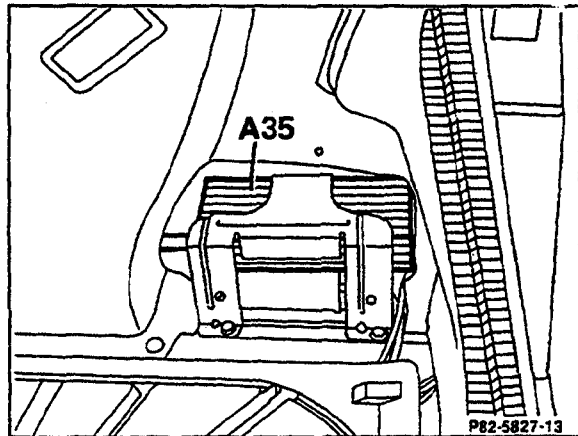

Figure 7
4. Connect antenna lead and 25 pin transmitter connection to TR (ensuring that the 25 pin connector is on top). Install TR and secure three bolts (Figure 7).
8. Guide TR/bracket assembly into place as per Figure 7 and secure using number 8 sheet metal screws. Ensure that the TR DOES NOT CONTACT THE FUEL FILLER NECK OVERFLOW HOSE.